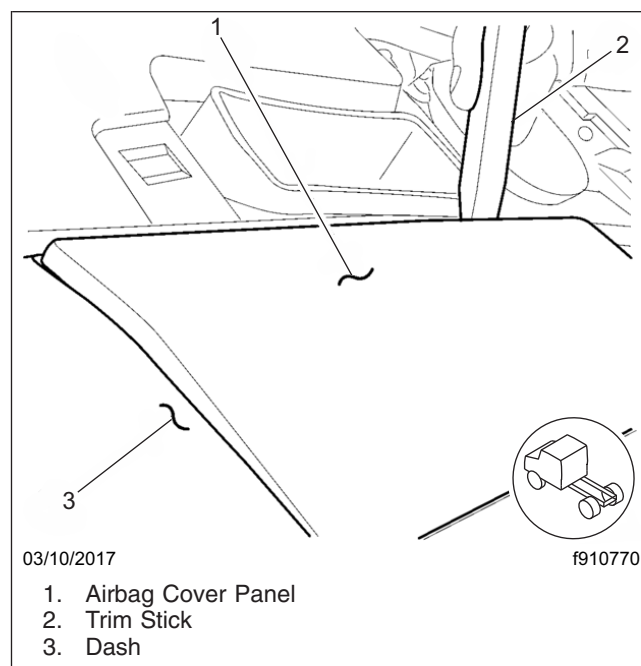

Fig. 5, Airbag Cover Panel
9. Using a trim stick or another suitable wide flat-bladed tool, pry the forward edge, then the outboard edge of the airbag cover panel from dash far enough to disengage the panel from the dash. See **Fig. 5**. Remove the airbag and the airbag cover panel as a unit. See **Fig. 6**.